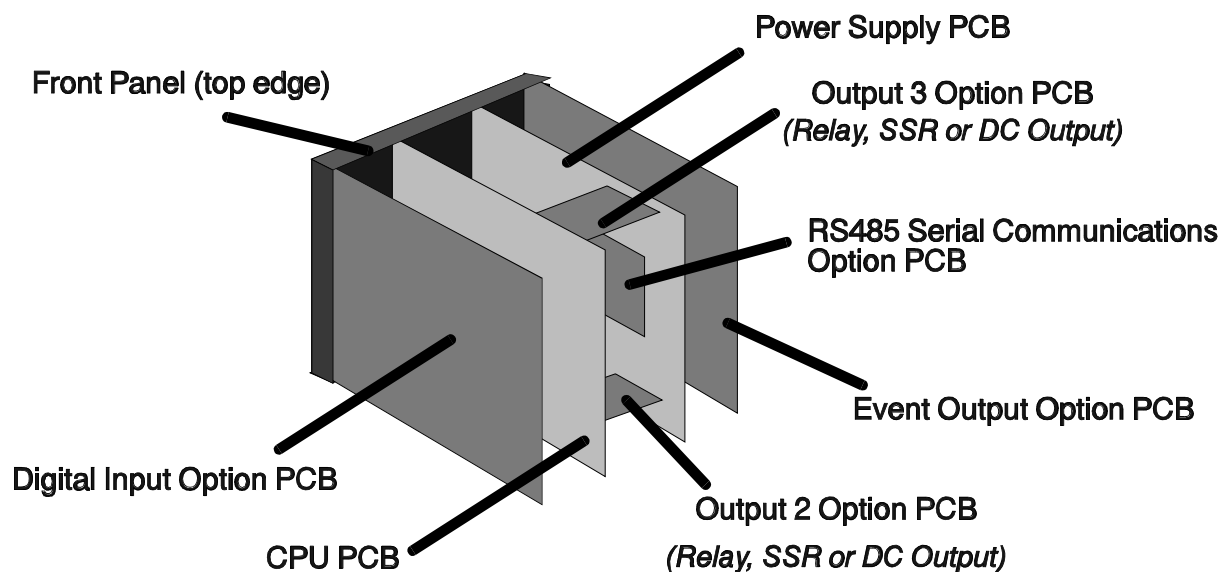
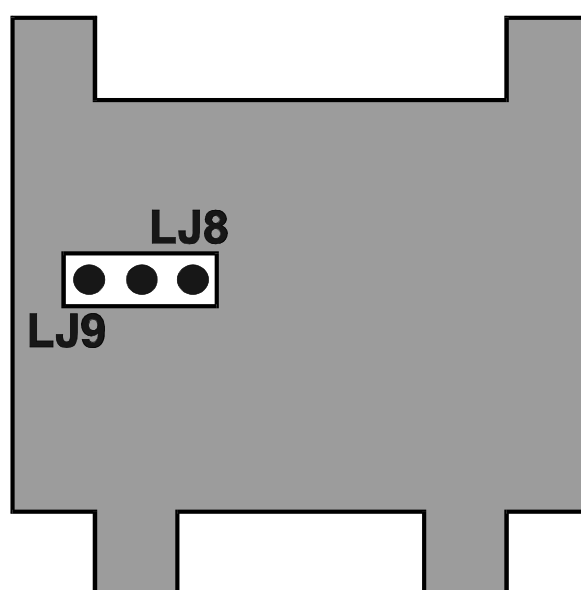

Figure 3-1 PCB Positions
Figure 3-7 DC Output Option PCB (Output 2/Output 3)
To withdraw the Setpoint Programmer from its housing, simply grip the side edges of the front panel (there is a finger grip on each edge) and pull the panel forwards. This will release the Setpoint Programmer from its rear connectors in the housing and will give access to the PCBs. Take note of the orientation of the Setpoint Programmer for subsequent replacement into the housing. The positions of the PCBs are shown in Figure 3-1.
The type of output for Output 2 and Output 3 is determined by the Option PCB fitted in the appropriate position (see Figure 3-1) and, in the case of the DC Output Option PCB being fitted, the setting of Link Jumpers LJ8 and LJ9 on that Option PCB (see Figure 3-7 and Table 3-3). There are three types of option PCB which may be used for Output 2 and Output 3:
3. DC Output Option PCB (link jumpers as shown in Figure 3-7)